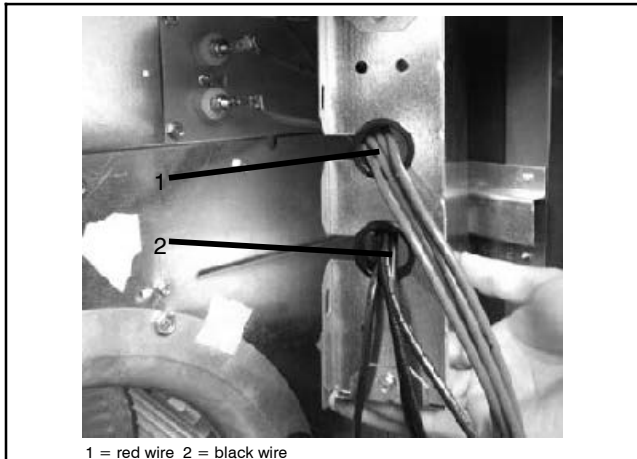

Fig. 14 — Routing Red and Black Wires
1. High voltage red and black wires are already separated and routed through grommets. Route the red wires through one cover hole and the black wires through the second cover hole as shown in Fig. 14.
2. Snap loose grommet in place on respective cover holes as per Fig. 14.